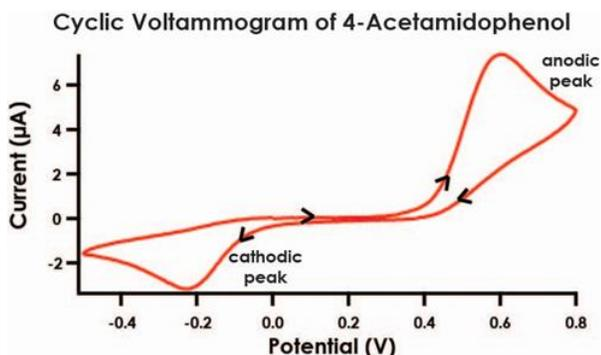

Figure 3. Quasi-Reversible Electrochemical Process of 4-Acetamidophenol
In this experiment, cyclic voltammetry (CV) is used to observe both the anodic (oxidizing) current and the cathodic (reducing) current as the potential of the electrode is swept first in the positive direction and then back in the negative direction (see: Figure 3). Because of its dependence upon the pH of the solution, the cathodic current is not a good choice for quantitative analysis. The anodic peak current, however, can be used as an analytical signal which is proportional to the concentration of the acetaminophen (A) in the solution.
securely capped. Each voltammogram should exhibit a prominent anodic peak near 0.5 V and a smaller cathodic peak near -0.2 V (see Figure 3).
- As before, obtain a cyclic voltammograms for the diluted acetaminophen medication solution. Set the "Electrode K1 current range" to 200 μA for all CV measurements, and use the same sweep rate (100 mV/s) for this solution. When a solution in a vial is not in use, be sure to keep the vial securely capped. The voltammogram should exhibit a prominent anodic peak near 0.5 V and a smaller cathodic peak near -0.2 V as you observed for the calibration standards (see: Figure 3).